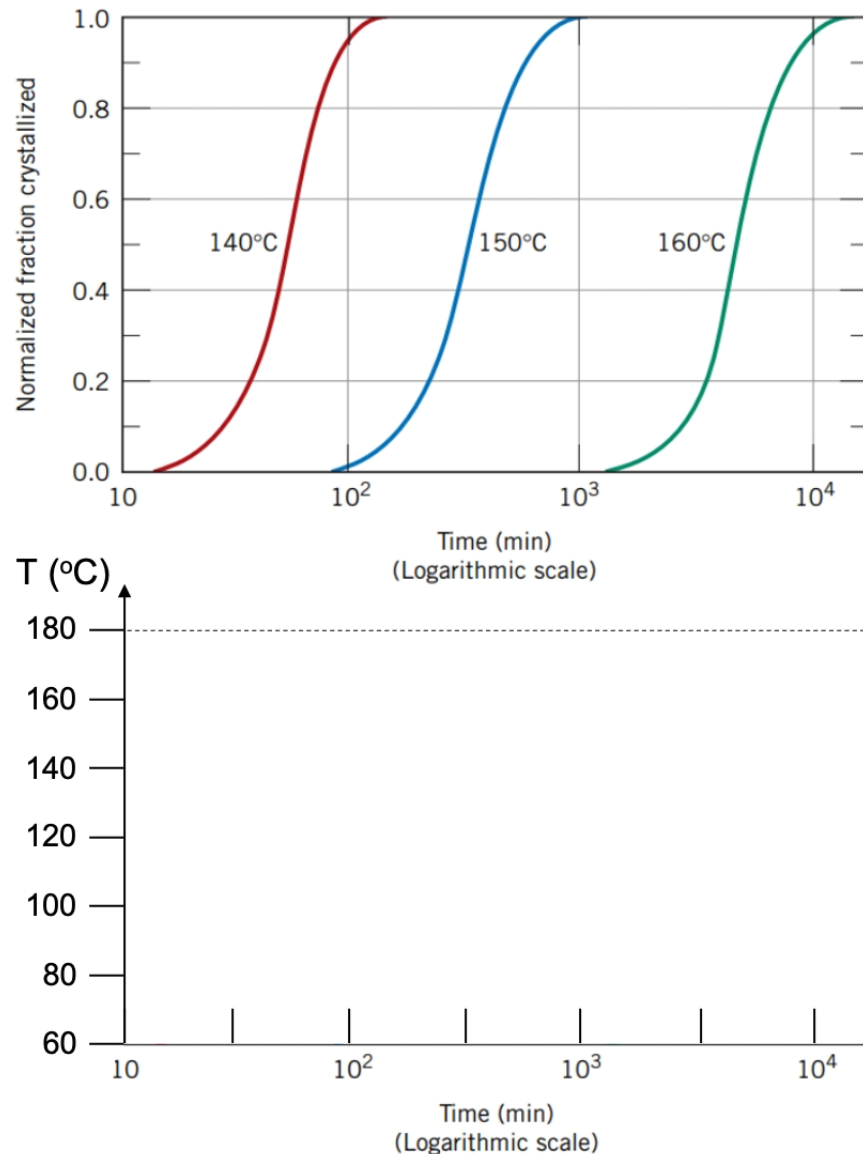
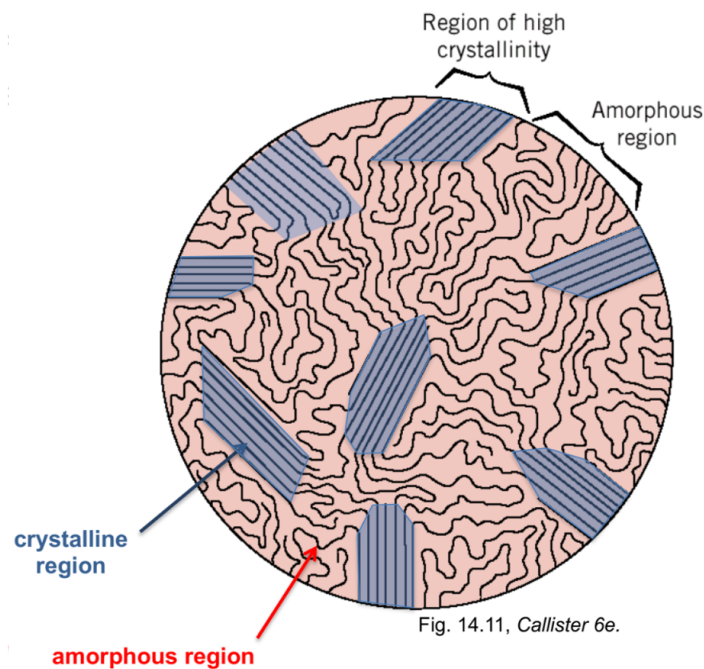

Figure 10: The top shows time for crystallization at three temperatures. The bottom is a TTT diagram for parts (ii) and (iii).
Figure 11: Semicrystalline polymer showing regions of crystal phase and regions of amorphous liquid/glass phase.
- b. The top of Figure 10 below plots fraction transformed versus time for the crystallization of polypropylene from its melt (i.e., from an initial state with zero percent crystal phase). Polypropylene has a melting temperature of 180°C .
- Plot the time for 50% transformation on the isothermal transformation (TTT) diagram in the lower panel of Figure 10, for 160°C , 150°C and 140°C .
- c. Shown in Figure 11 is a characteristic microstructure of a semi-crystalline thermoplastic polymer, containing crystalline regions that have crystallized from the melt, and amorphous regions that represent untransformed liquid. Considering the information from Figure 10 in part (b), which one of the following three thermal paths would lead to the semicrystalline microstructure shown in Figure 11.